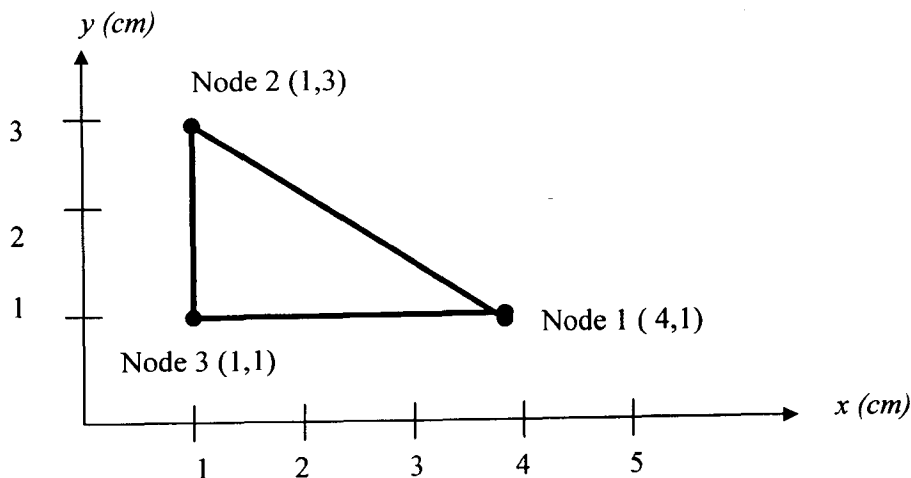

Figure 9
- (b) Show clearly in a step by step manner the development process of a stiffness matrix, $[K]^e$, for a triangular element in a state of plane stress as shown in Figure 9. Given $E = 200\text{GN/m}^2$, $\nu = 0.3$ and $t = 1\text{cm}$.